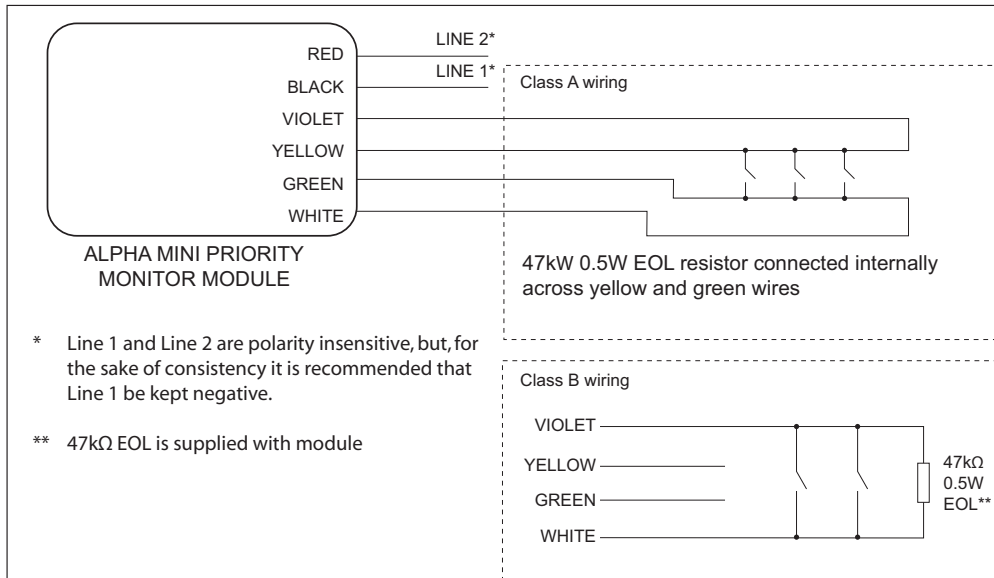

Fig 2. Wiring Diagram for Alpha Mini Priority Monitor Module
2. Connect the modules for Class A wiring or Class B wiring (Fig 2). Bit 8 of the DIL switch is used to select the class of wiring. All wiring must conform to local codes and regulations.